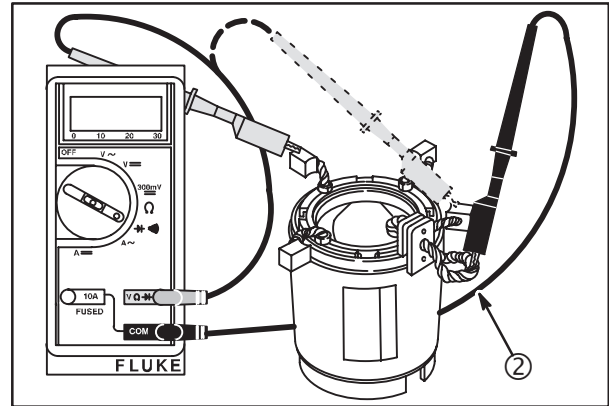

**Fig. 37**
Minimum brush dimension (1) is **1/4" (6 mm)**. If brushes are worn less than specification, replace the starter housing, Fig. 37.